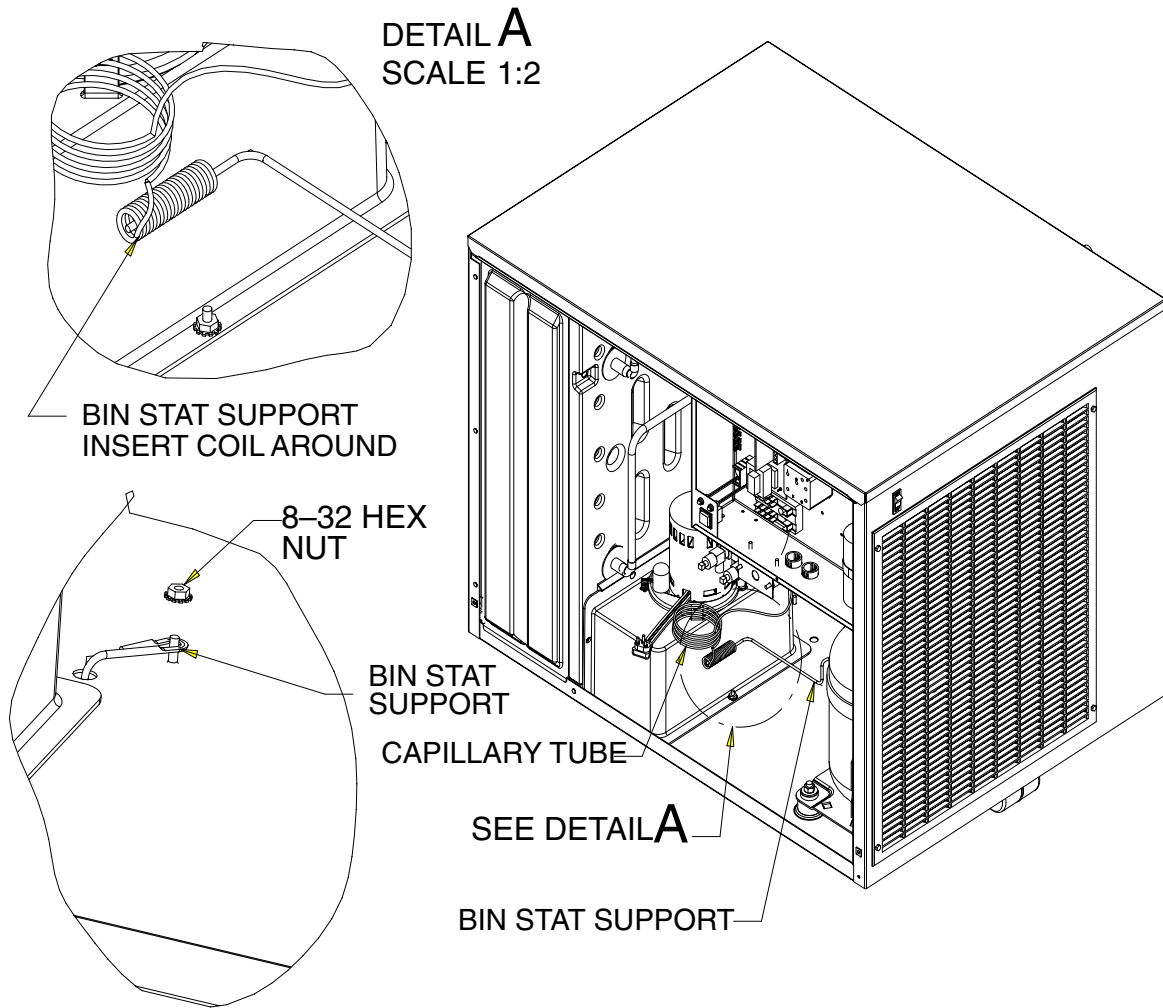

Figure 3
6. Insert the “1/4” diameter wire Bin Stat support into the coiled end of capillary tube. Carefully wrap 5 turns of free capillary tube tightly around the Bin Stat support. Insert the assembly through the hole in the chassis base. Route capillary tube to follow the Bin Stat support as closely as possible (see Figure 3).
7. Slip eye of Bin Stat support over the 8-32 weld stud in the chassis base. If a nut exists on this weld stud remove before assembling the Bin Stat support. Secure the Bin Stat support with the 8-32 Keps nut provided in the kit (see Figure 3).